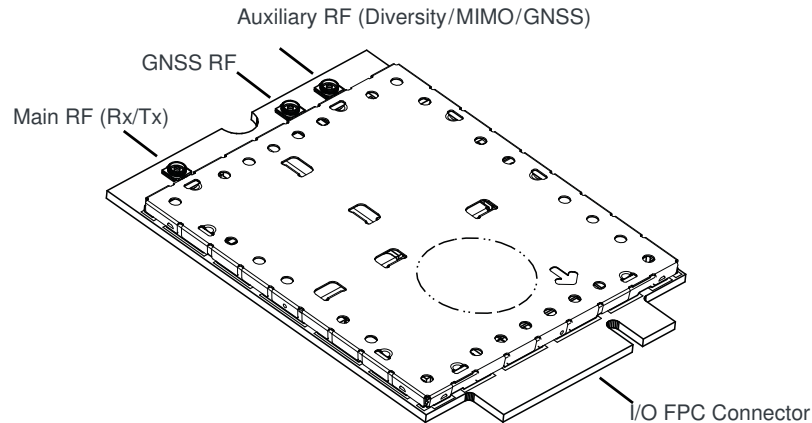

Figure 4-1: Module Connectors
- Connect to system ground using the mounting hole shown in Figure 4-1 on page 35.